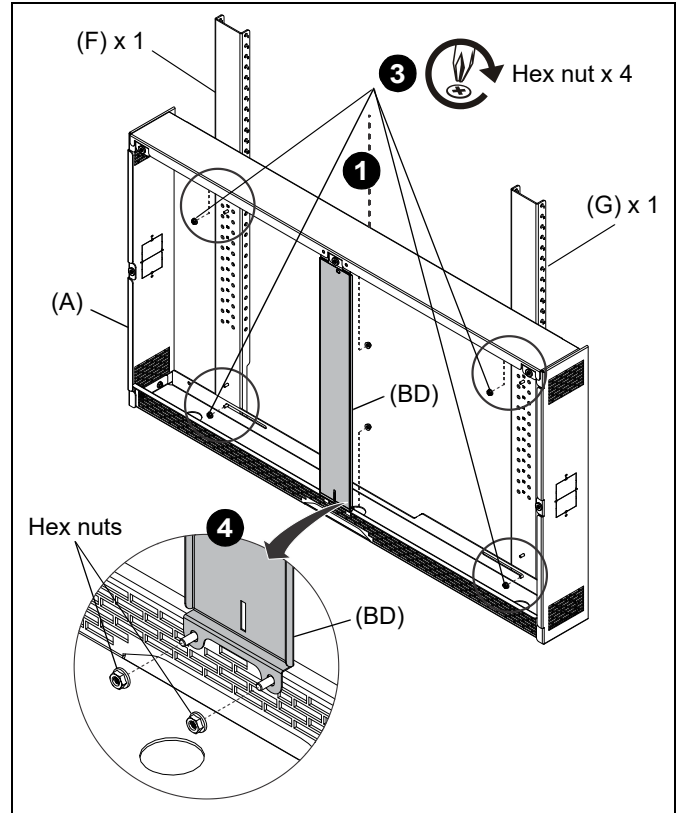

Figure 1
3. Attach the left bottom upright (G) and right bottom upright (F) to the back side of the floor cabinet (A) using the four hex nuts attached to the bottom uprights (F/G). (See Figure 1)
4. Remove the four hex nuts from the floor cabinet (A). Place the holes in the center bracket (BD) over the studs on the front inside edge of the floor cabinet (A) and reinstall the four hex nuts. (See Figure 1)